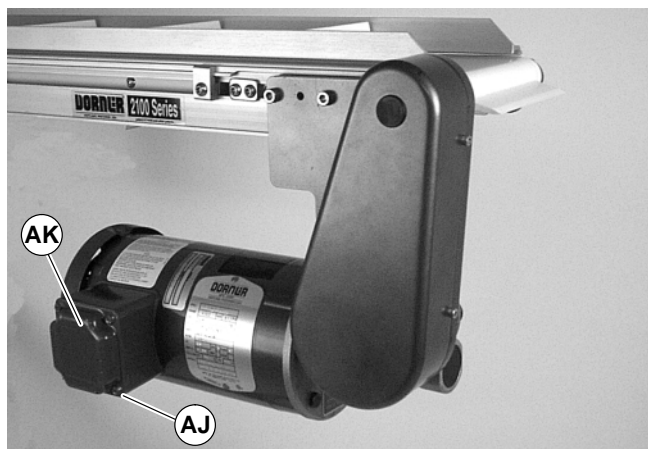

Figure 20
- a. Loosen terminal box screws (AJ of Figure 20) and remove cover (AK).